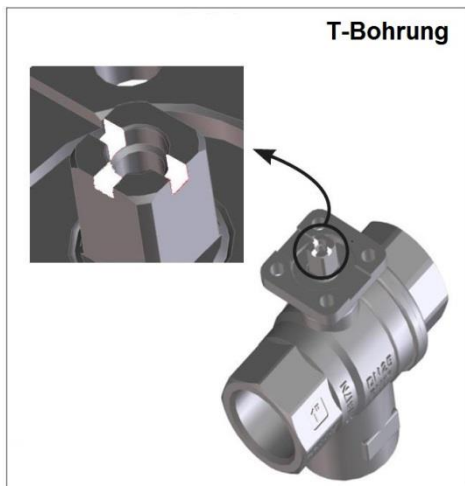

FIG. 1
- Grooves at the top of the stem clearly show the position of the holes (and therefore the direction of flow) in the ball at all times (see fig. 1/2).